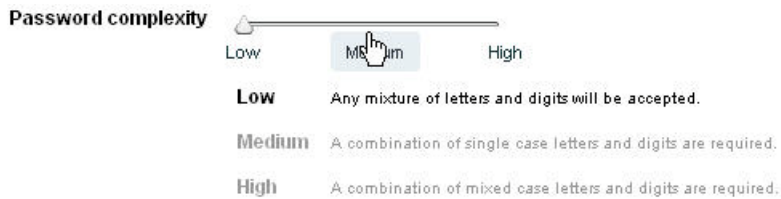

FIG. 353 Password Complexity Slider
4. In the **Password Complexity** field, use the slider to select a level of complexity (FIG. 353).